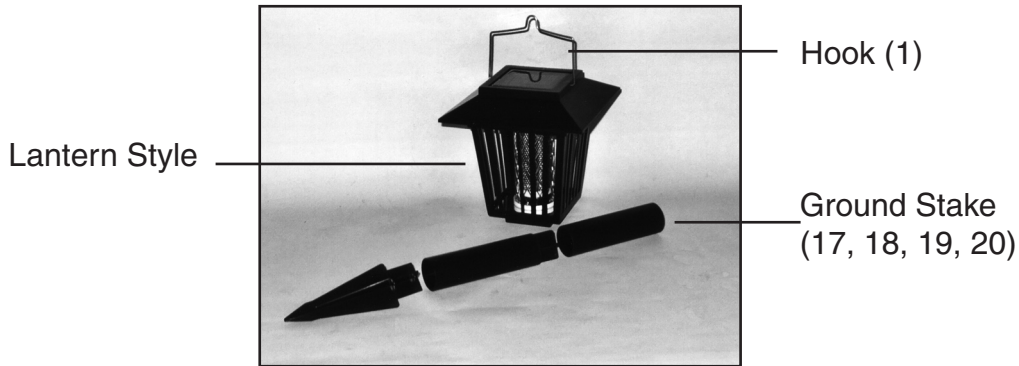

Figure 3
1. **As a Solar Garden Light, insert the assembled Stake (17, 18, 19, & 20) into a flat and level surface.** Choose an area where the sunlight falls directly onto the Solar Panel (2). Insert the sharp end of the Stake into the ground, deep enough to hold firmly. Be sure you have avoided any underground wiring or plumbing. Attach the Light firmly on the top of the Stake. See the cover photo. Make sure the area is not accessible to children or pets and that the area has no plant debris nearby that can fall on the unit.
2. **As a Lantern design, remove the Stake.** You need to place the lantern in a area where the Solar Panel (2) can be charged with direct sunlight while hanging. Lift the Hook (1) and connect it to a chain or hook from a beam or door jam. Avoid hanging it too low where bodily injury could happen. See Figure 3.